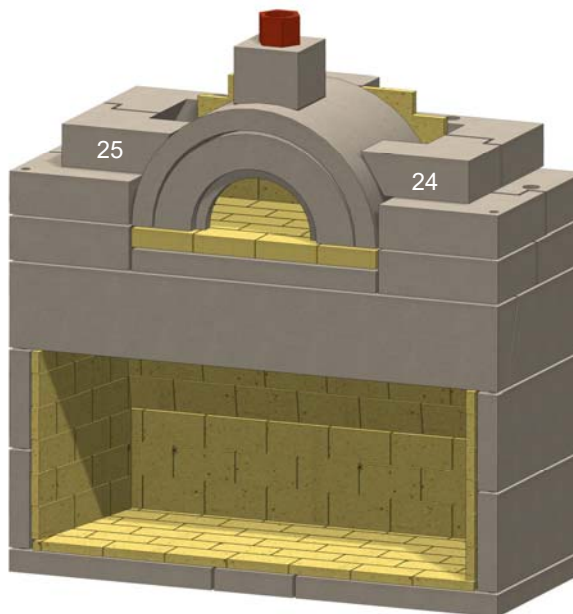

Figure 31. Middle Front Throat Pieces
V. Install the middle left and right front throat pieces (24 & 25). See Figure 31.